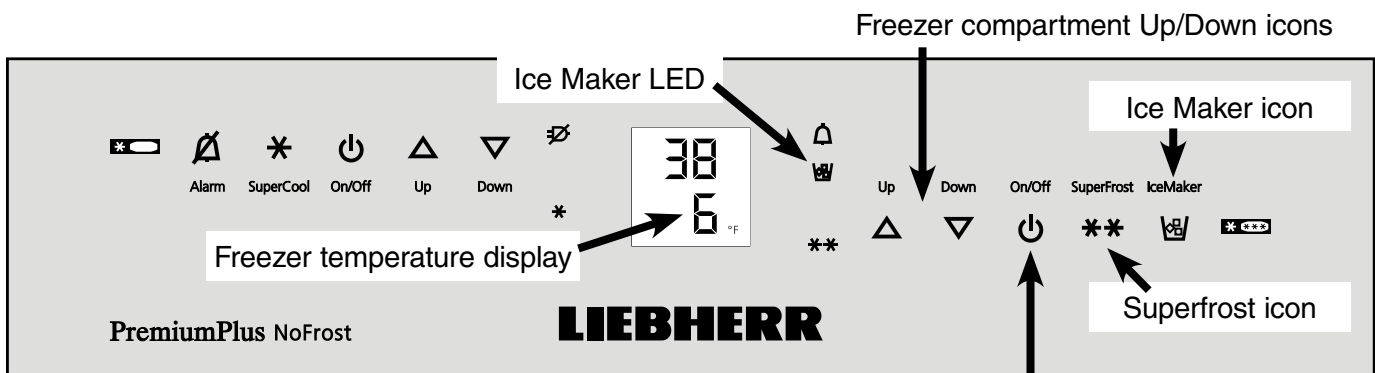

Figure 23
- Touch the **Ice Maker icon** so the **Ice Maker LED** comes on (**Figure 23**).